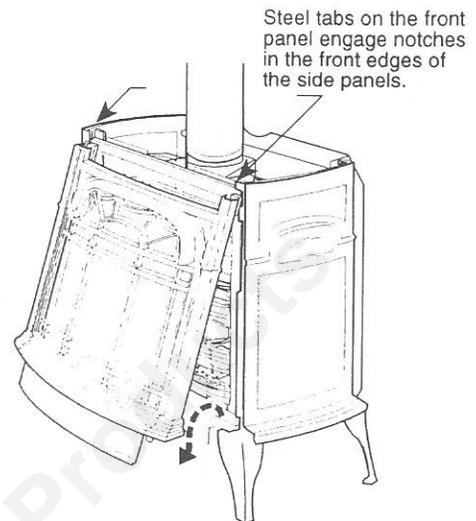

Figure 34. Remove the front plate.
2. Lift the Front Plate up and then swing the bottom out to disengage it from the heater shell. Figure 34.
1. Remove the Front, Glass Frame and Glass Panel. Figures 34 and 35. Remove the old gasket. Use a razor blade to separate the glass and gasket from the frame, and to clean the glass of any remaining cement or bits of gasket.
7. Replace the front as shown in Figure 34. Swing the bottom of the front panel into place against the sides panels, and engage prongs on the bottom corners with notches in the tops of the stove legs. The front is in place properly when you cannot pull it toward yourself without also lifting it.